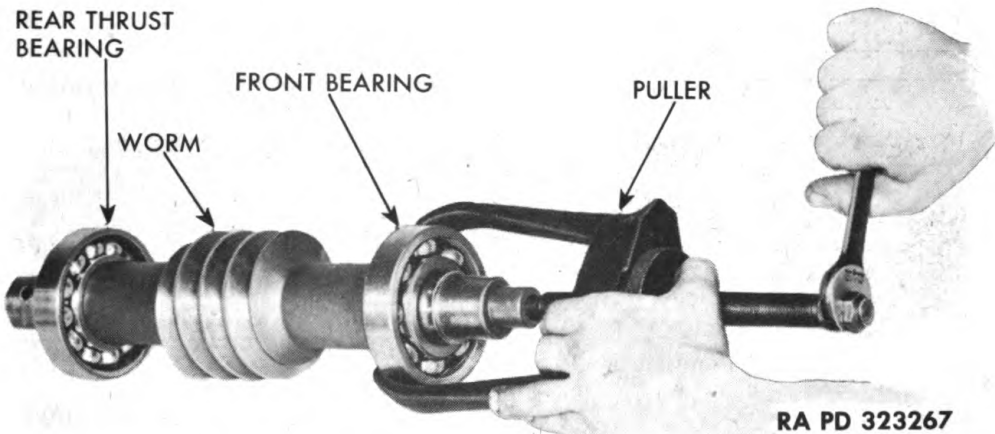

Figure 274 — Removing Winch Worm Front Bearing
j. Disassemble Worm Assembly (fig. 274). Remove brake disk key from worm. **NOTE:** Do not remove bearings from worm unless inspection reveals it is necessary. Pull both bearings from worm using puller (fig. 274) or an arbor press. **NOTE:** When removing bearing, seat puller jaws or bed of press against inner bearing race.